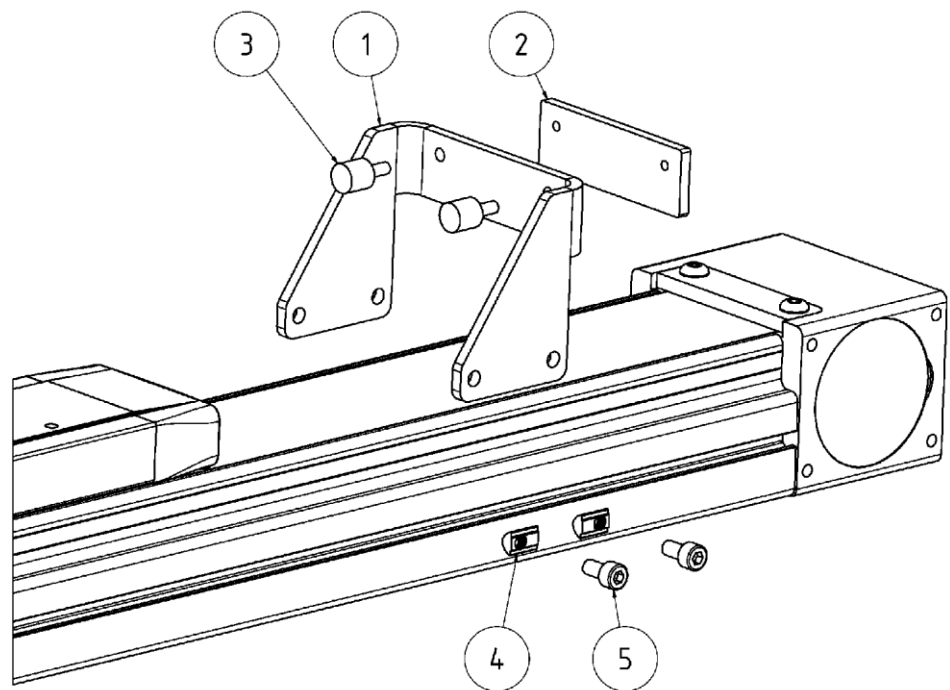

Figure 10: External end stop
- ◆ Place the thread plate (Figure 10, Pos. 2) on the external end stop (Figure 10, Pos. 1) and screw it to the buffers (Figure 10, Pos. 3).
- ◆ Insert the slot nuts (Figure 10, Pos. 4) into the clamping profiles of the HLR linear axis, two in each groove and roughly position them for the external stop.
- ◆ Slide the external stop onto the support profile (with the buffers in the direction of the carriage), over the slot nuts and screw-in the screws supplied (Figure 10, Pos. 5) (do not fastenn).
- ◆ Move the external stop to the desired position and tighten the screws (Figure 10, Pos. 5) with the required torque (see Table 9).
Tightening torque Toe Clamp Assembly (Figure 10, Pos. 5)